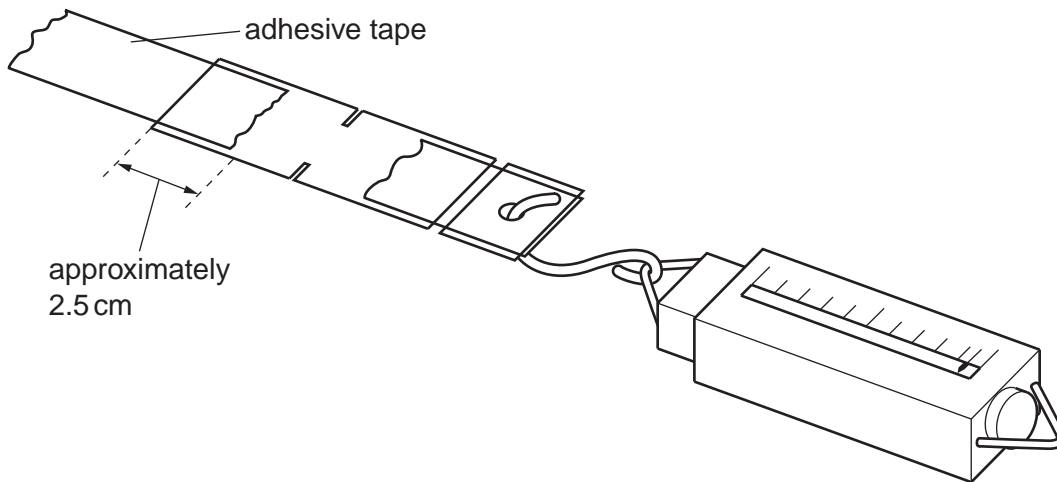

Fig. 2.3
- (d) (i) Lay a strip marked P on the bench and hook the newton-meter through the hole. Use a piece of adhesive tape to fix the other end of the strip to the bench, as shown in Fig. 2.3.